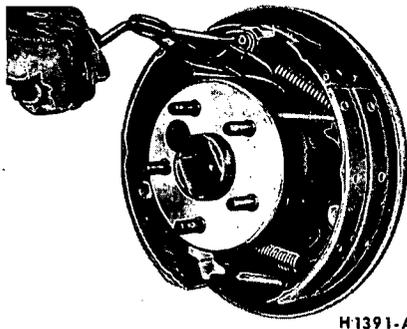

FIG. 15—Retracting Spring Installation
6. Install the primary shoe to anchor spring (Fig. 15).
8. Install the secondary shoe to anchor spring with the tool shown in Fig. 15.